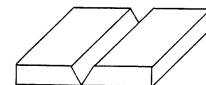

Figure 2.1
2. Position the metal so that the joint to be welded is in the flat position. (See Figure 2.1.)